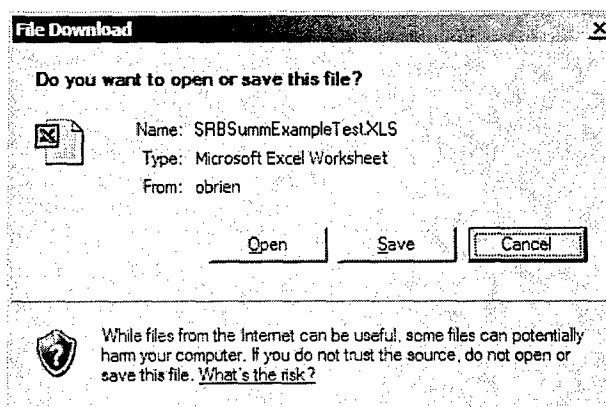

Figure 55. Export SRB Summary Report to Excel
- You can export the SRB Summary report to a Microsoft Excel workbook by clicking the *Export to Excel* button at the top of the page. The Dialog Box displayed in Figure 55 shows that the workbook is automatically named using the convention *SRBSumm&Planname.XLS* (e.g., *SRBSummExampleTest.XLS*). You may either open the workbook directly or save the workbook to a local or remote (network drive).